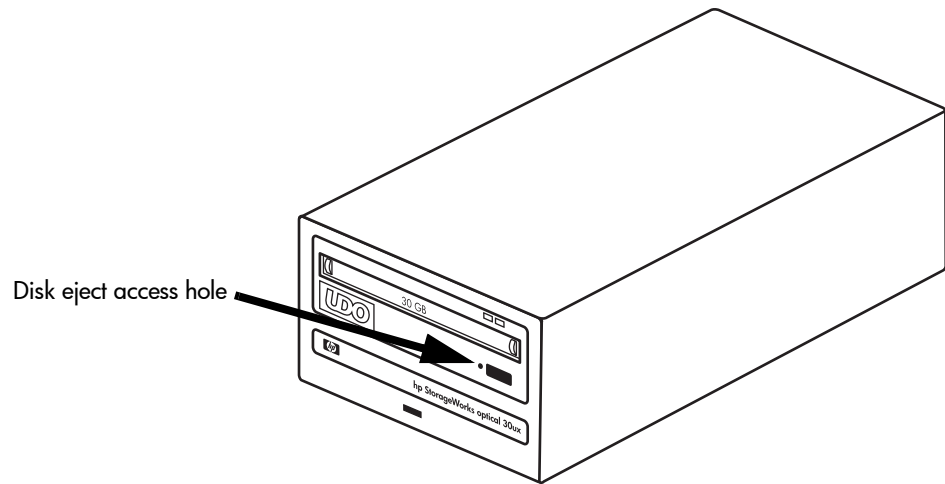

Figure 7: Manually ejecting disks
2. Insert a small, flat-slotted screwdriver into the access hole located below the disk slot on the front panel of the drive (see Figure 7). The screwdriver will engage a screw behind the access hole.